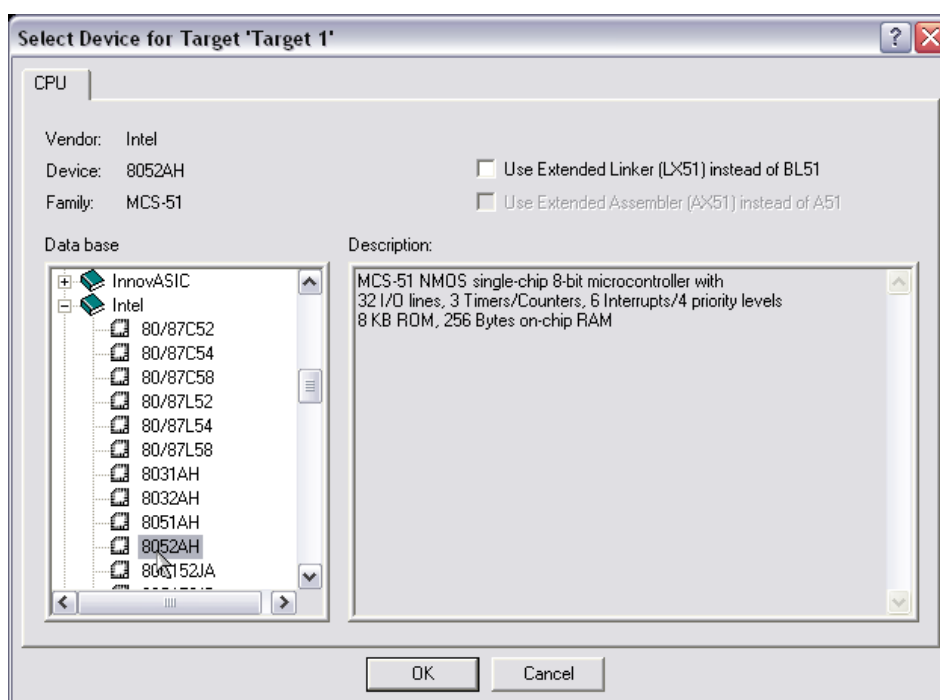

Figure 5-1 CPU Type Selection
2. Choose “Intel”→“8052AH” from the “Data Base” list box of the “Select Device for Target ‘Target1’” dialog box. For the existing items, you can click “Select Device for Target ‘Target1’” from the “Project” menu, open “Select Device for Target ‘Target1’” dialog box and choose “Intel”→“8052AH”CPU from the “Data Base” list box as shown in Figure 5-1.